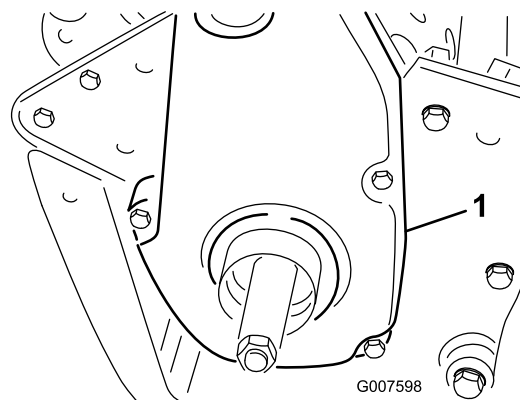

Figure 30
1. Remove the belt cover mounting fasteners and the belt cover to expose the belt (Figure 30).